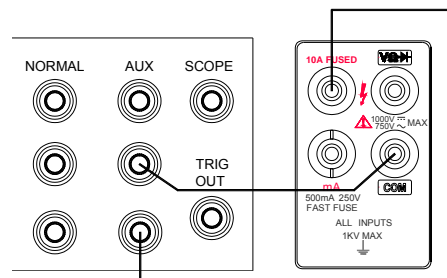

Figure 4-3.
3. Connect a test lead from the output 20A HI and LO connectors of the 5520A to the 10A and COM connectors on the meter (see Figure 4-3). Select the Current dc or Current ac function and 10A range on the meter and the input level from the 5520A. The display read should meet the request listed in Section 6.